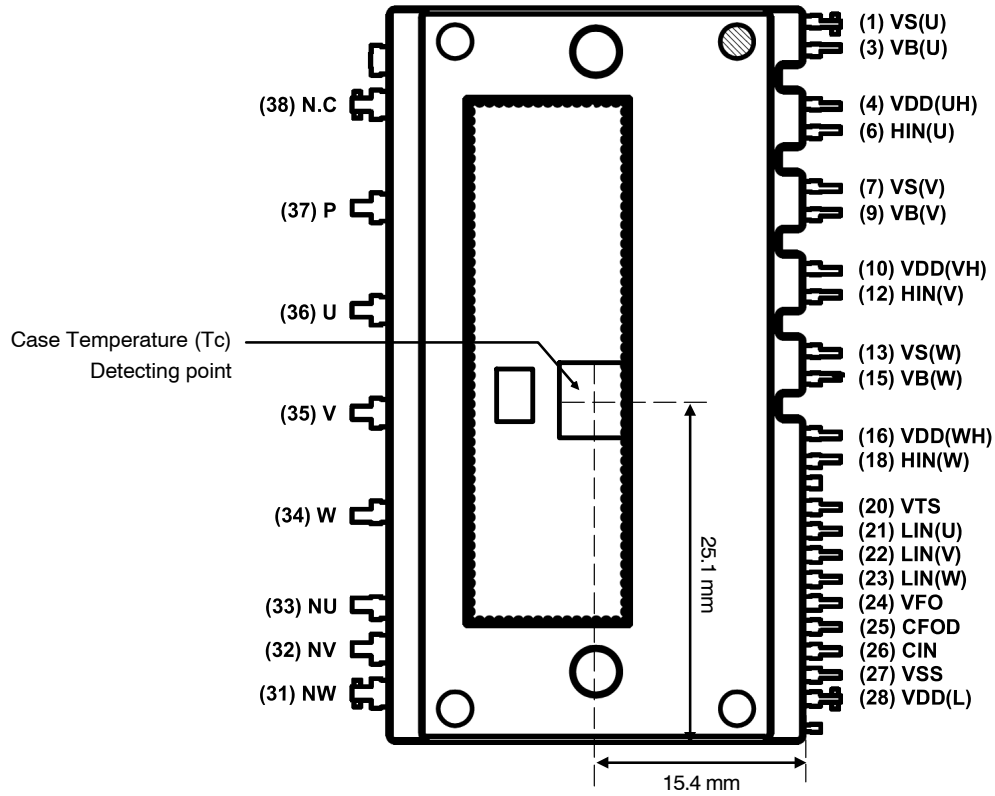

Figure 8. Case Temperature (Tc) Detecting Point
6. For the measurement point of case temperature (T_c), please refer to Figure 8.